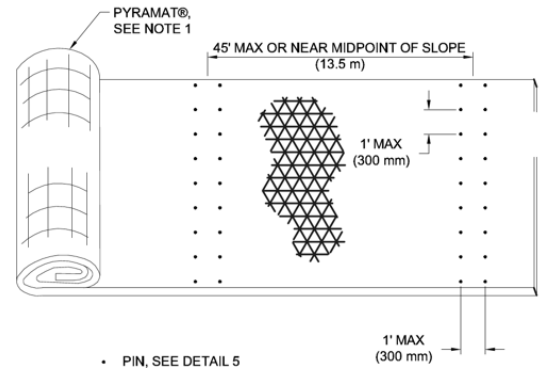

Figure 14: Simulated check slot
- For channel bank heights or channel bottom widths greater than 45 ft (13.7 m), install simulated check slots. This method includes placing two rows of pins 12 in (300 mm) apart on 12 in (300 mm) centers at 45 ft (13.7 m) maximum intervals or across the midpoint of the slope for slope lengths less than 60 ft (18.2 m) (Figure 14).